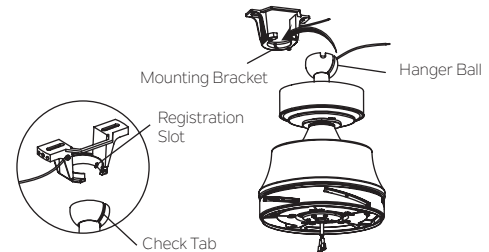

Fig. 10
Step 6. Now lift the motor body into position and place the hanger ball into the mounting bracket. Rotate until the “Check Tab” has dropped into the “Registration Slot” and seats firmly. (Fig. 10) The entire motor body should not rotate if this is done correctly.